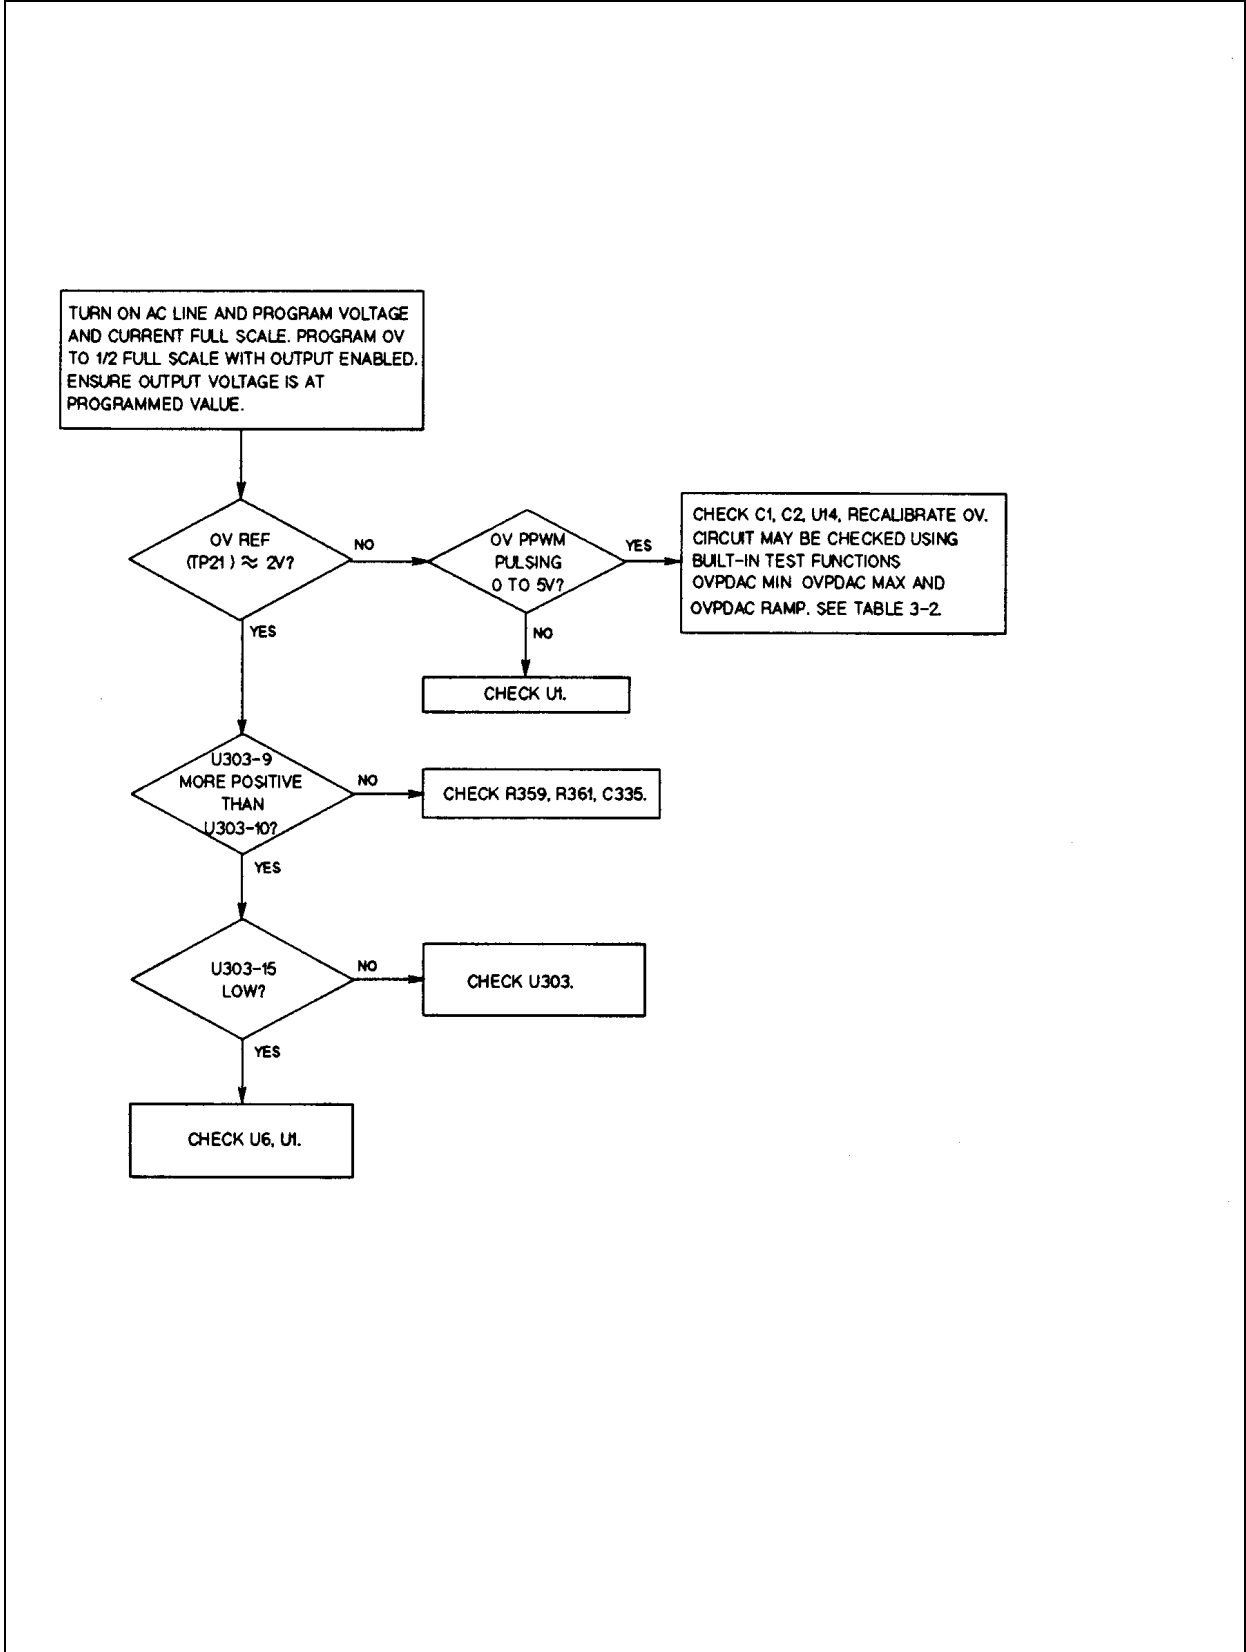

Figure 3-7. Troubleshooting Will Not Overvoltage
- ↳ Figure 3-7 - Troubleshooting Will Not Overvoltage